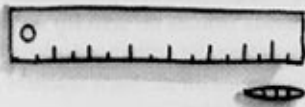

Fig. 1.3
6. Calibrate a toothpick by transferring ruler markings every 2 mm to the toothpick. Use it to measure the depth of any cracks created and a ruler to measure their lengths (Fig. 1.3). Do the cracks go all the way down to the aluminum or do they stop before they reach it?